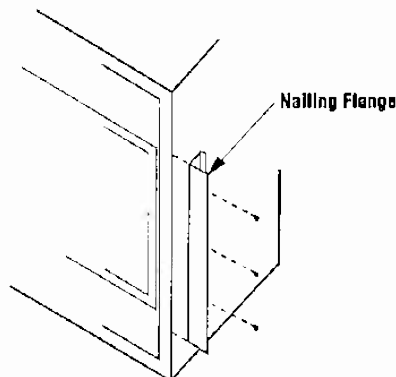

Figure 8
Step 3. Install the nailing flanges (as shown in Figure 8) with three (3) screws each. Align with the three holes on each side of the appliance (refer to Figure 8).